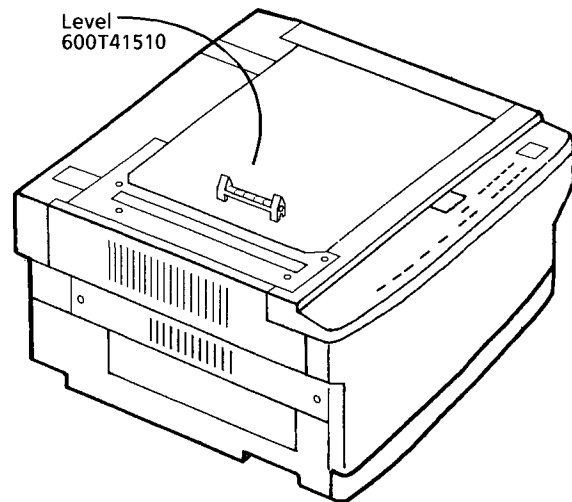

Figure 1. Checking the Front – to – Rear Level
- a. Position the level on the Document Glass as shown and check that no part of the bubble is visible outside one of the level indicator lines (Figure 1).